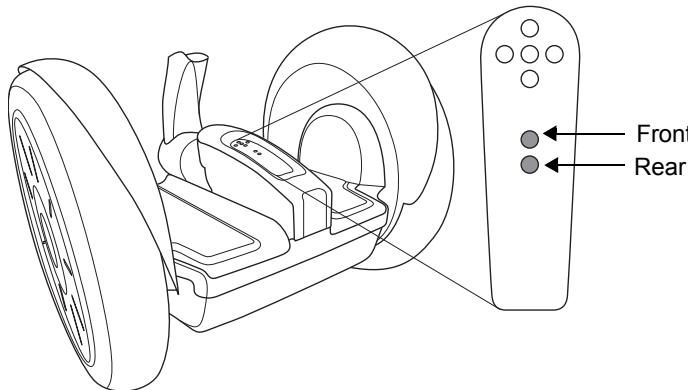

Figure 23. Location of Battery Charge Indicators
6. Verify that the two Charge Indicator lights on the Console illuminate green to confirm the Batteries are charging (see **Figure 23**).
Two Charge Indicator lights on the Console indicate the charge status of the Batteries when the Segway PT is plugged in. The front Charge Indicator light corresponds to the front Battery and the rear Charge Indicator light corresponds to the rear Battery (see **Figure 23**).